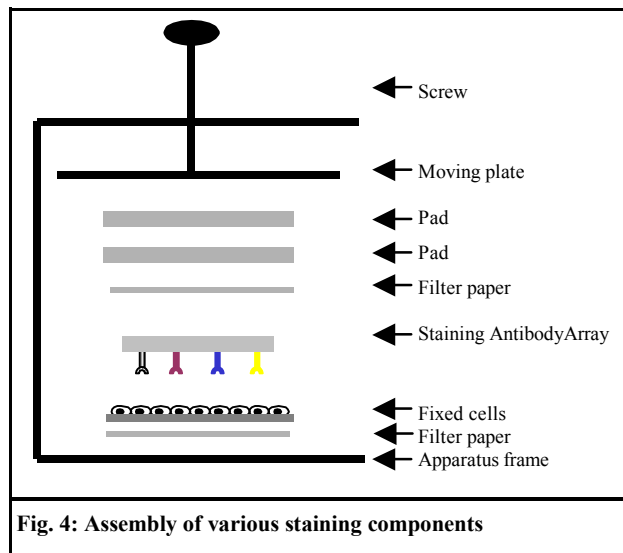

Fig. 4: Assembly of various staining components
Fig. 4: Fluorescent double staining with AntibodyArray™. **a**, Low magnification of A431 cells staining with an array containing rabbit anti-YY1 antibodies (left in green), mouse anti-p130^{cas} antibodies (middle in red), and both YY1 (right in green) and p130^{cas} (right in red) antibodies at neighboring positions. Goat anti-rabbit Cy2-labeled secondary antibodies and goat anti-mouse Cy3-labeled secondary antibodies were used. **b**, Enlarged view of the double staining of YY1 (green) and p130^{cas} (red) from **a**.
3. Place the staining AntibodyArray™ on top of the cells and assemble the components as shown in Fig. 4.